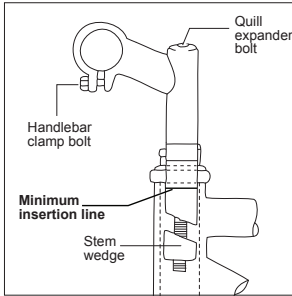

Fig. 46: Quill stem parts.
- Quill-type (Fig.46)
A quill stem that is too high can cause damage to the bicycle, decrease your control, and cause you to fall. Make sure the minimum insertion mark is inserted in the frame (Fig. 46).
1. Decrease the tightness of the quill expander-bolt two to three turns (Fig. 46).
insertion point (Fig. 46). A minimum of 70mm of the stem should always be in the frame.